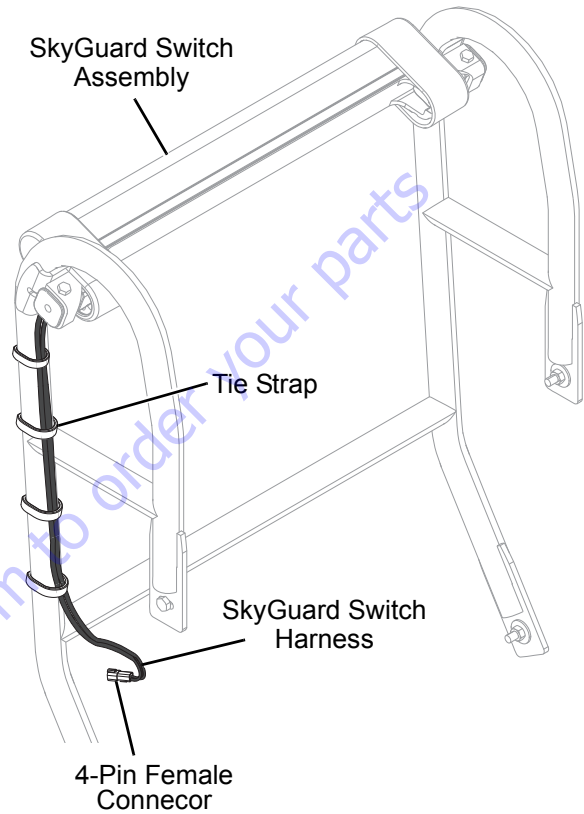

Figure 4-57.
9. Route the SkyGuard switch harness along SkyGuard support bracket (right side) and under the platform control box. Secure the harness using tie straps. See Figure 4-57.